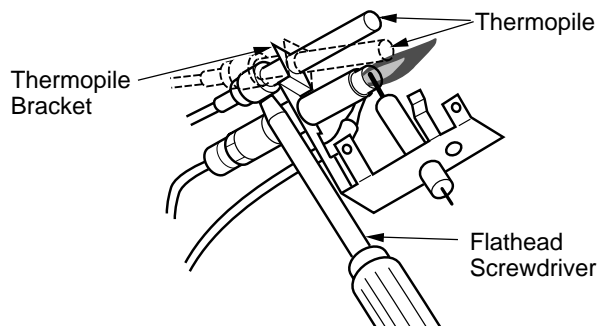

Figure 2 - Adjusting Thermopile
3. With switch in the OFF position, place a flathead screwdriver behind thermopile bracket. Gently twist screwdriver until thermopile tip is touching pilot flame (see Figure 2). Turn switch to ON position to see if main burner will light.